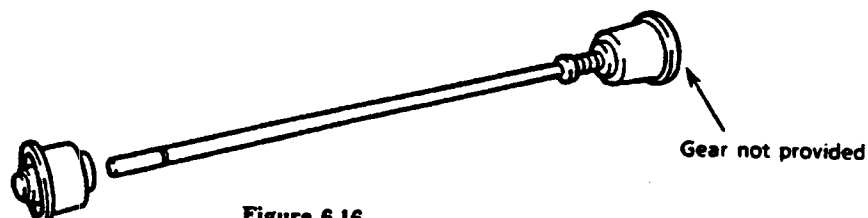

Figure 6.16
- (1) Install a roll chart into the special stock roller. (See Figure 6.16)